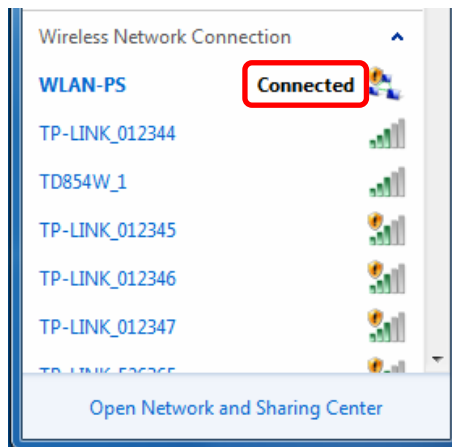

Figure 3-25
- Once the connection is successful, you will see the following screen shown in Figure 3-25.